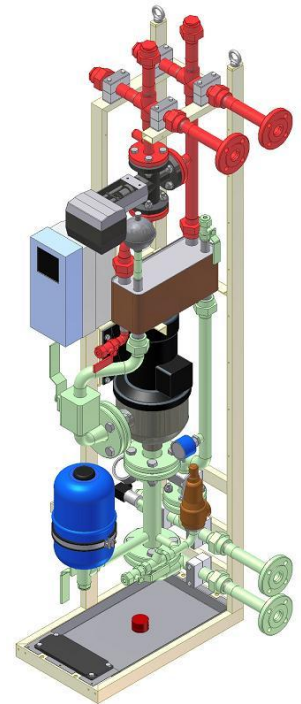

Figure 2.2-1
- Primary circuit, HXL040-PS01 (green colour in the Figure 2.2-1)
- Secondary circuit, HXL040-PS02 (red colour in the Figure 2.2-1)